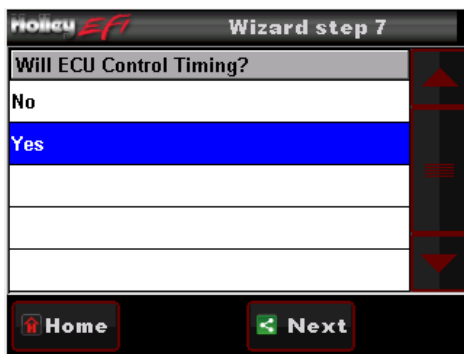

Figure 15
9. Next, you need to select whether the ECU will be controlling the ignition timing (Figure 15). Select “Yes” ONLY if you are using a GM small cap computer controlled HEI distributor or Ford TFI distributor. These are the only ignition distributors that allow the ECU timing control using the TERMINATOR™ system. All other ignition/distributor types must be a standard mechanical advance type used on any carbureted application. If you select “Yes”, proceed to step 10. If you select “No”, proceed to step 11.